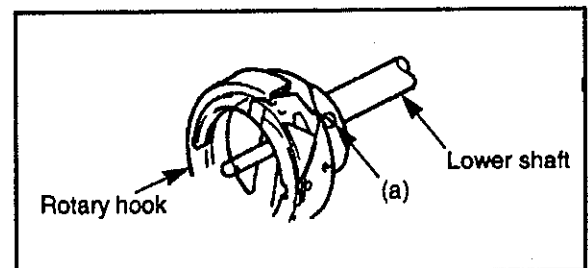

FIG.3
- (1) Slightly loosen the rotary hook retaining screw (a) closest to the hook tip and loosen the other two retaining screws (Fig.3).
- (4) Slightly tighten the retaining screw (a) closest to the hook tip (Fig.3 on page 22).
- (6) Firmly tighten the three retaining screws (a) (Fig.3 on page 22).
- (7) Mount the needle plate, the hook cover and the work table.